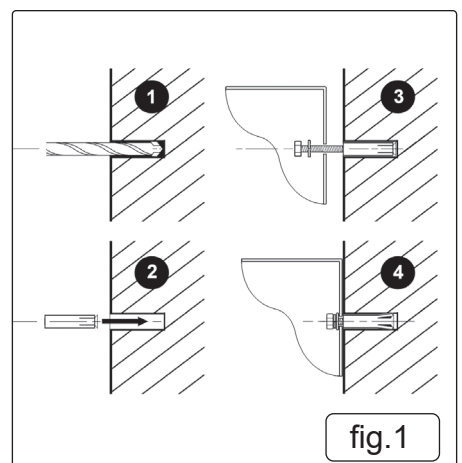

fig.1
- 4.3. **INSTALLATION INSTRUCTIONS (fig.1)**